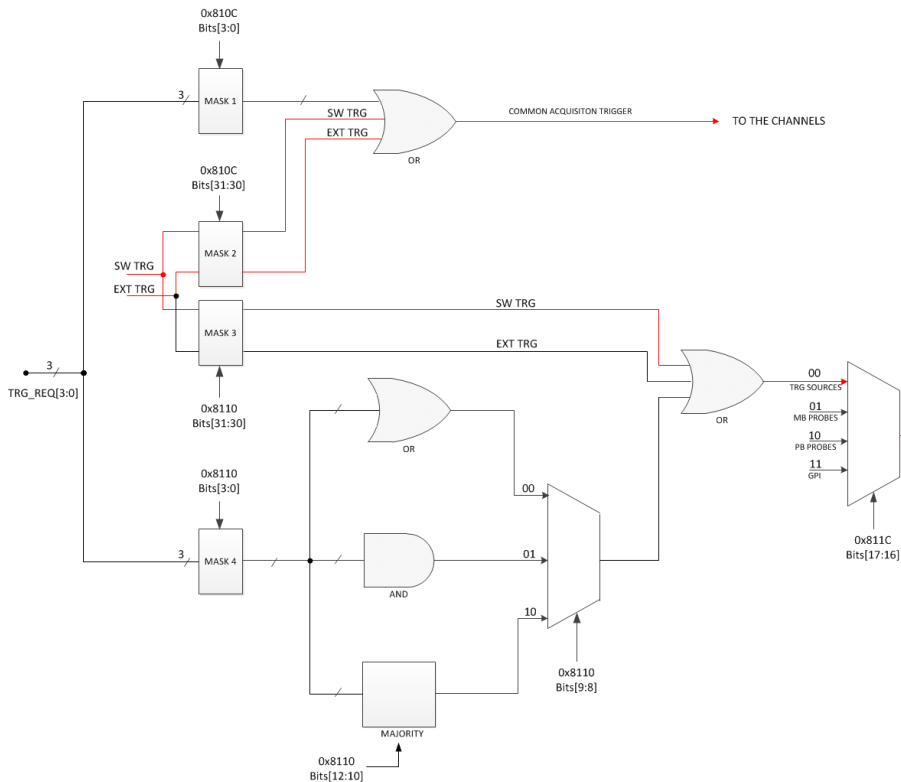

Fig. 9.13: Trigger configuration of TRG-OUT front panel connector.
As described in Sec. 9.7, the OR of all the enabled trigger sources, synchronized with the internal clock, becomes the common trigger of the board that is fed in parallel to all channels, consequently causing the capture of an event. By default, only the Software Trigger and the External Trigger participate in the common acquisition trigger (refer to the red path on top of Fig. 9.13).
- the OR of all the enabled trigger sources (only the Software Trigger is provided by default, as in the red path of Fig. 9.13);